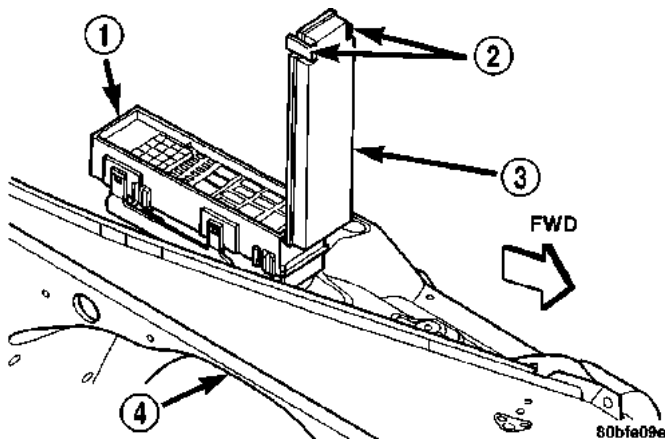

Fig. 8 Power Distribution Center
(5) Unlatch and open the PDC cover (Fig. 8).